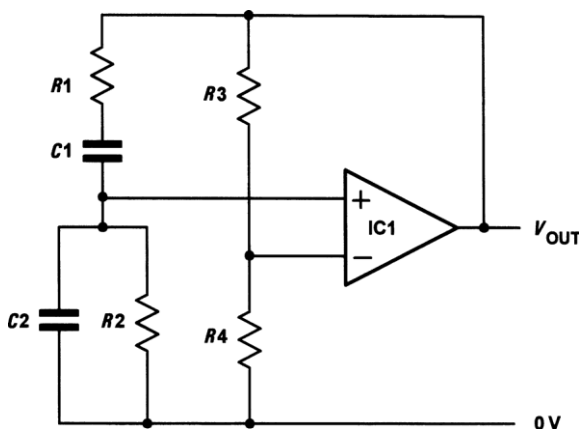

Figure 9.4 Sine wave oscillator based on a Wien bridge network (see Example 9.2)
Fig. 9.4 shows the circuit of a Wien bridge oscillator based on an operational amplifier. If $C_1 = C_2 = 100 \text{ nF}$, determine the output frequencies produced by this arrangement (a) when $R_1 = R_2 = 1 \text{ k}\Omega$ and (b) when $R_1 = R_2 = 6 \text{ k}\Omega$.
- 9.3 A Wien bridge oscillator is based on the circuit shown in Fig. 9.4 but R_1 and R_2 are replaced by a dual-gang potentiometer. If $C_1 = C_2 = 22$ nF, determine the values of R_1 and R_2 required to produce an output at exactly 400 Hz.